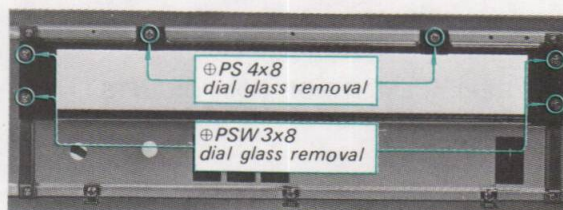

Fig. 2-12. Dial glass replacement
2. Remove the six screws securing the dial glass holder to the dial glass escutcheon as shown in Fig. 2-12. This frees the dial glass.